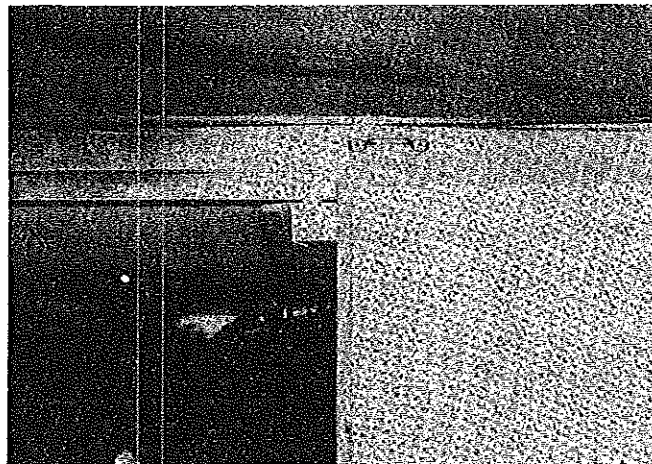

FIGURE 37
40. Holding the stove module with both hands, engage the stove hangers onto the retaining brackets located on the body rail directly above the access door. See Figure 37.